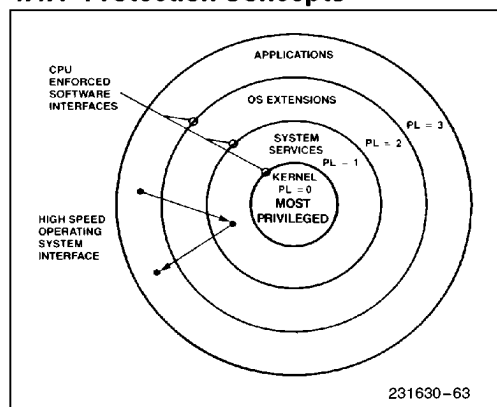

Figure 4-14. Four-Level Hierarchical Protection
The four-level hierarchical privilege system is illustrated in Figure 4-14. It is an extension of the user/supervisor privilege mode commonly used by mini-computers and, in fact, the user/supervisor mode is fully supported by the Intel386 DX paging mechanism. The privilege levels (PL) are numbered 0 through 3. Level 0 is the most privileged or trusted level.